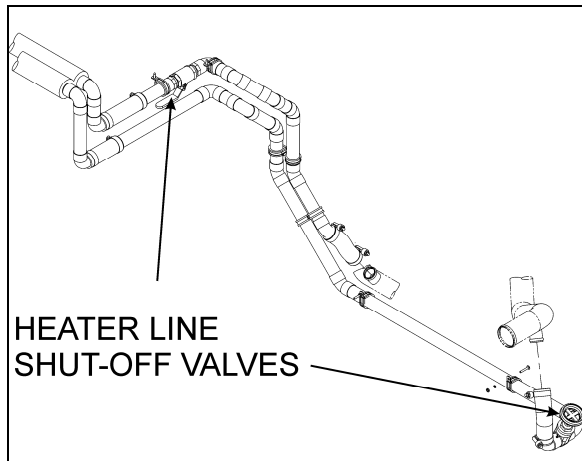

FIGURE 39: HEATER LINE SHUT-OFF VALVES
**On X Series vehicles**, the valves are located in the engine compartment. One is on the L.H. side of compartment in front of the radiator and the other valve is located under the radiator fan gearbox (Fig. 39).